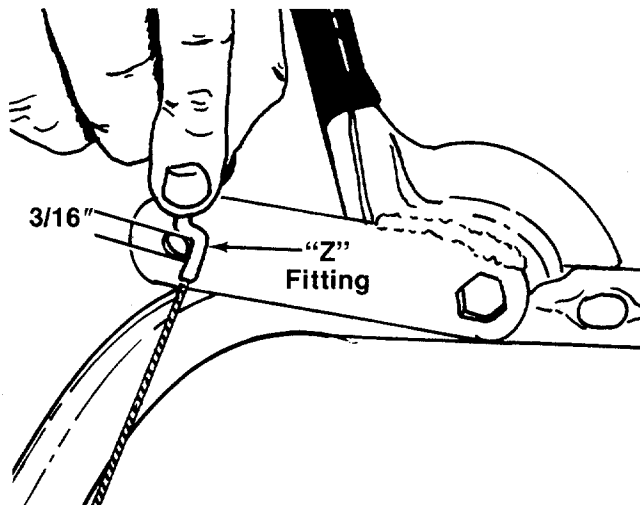

FIGURE 5.
3. Place the clutch grip on the left handle in the raised position. Hold the "Z" end of the cable against the clutch grip as shown in figure 5. Adjust the lower hex nut (underneath the cable bracket) so that the middle of the "Z" fitting is  $\frac{3}{16}$ " above the bottom of the hole on the clutch grip as shown in figure 5.